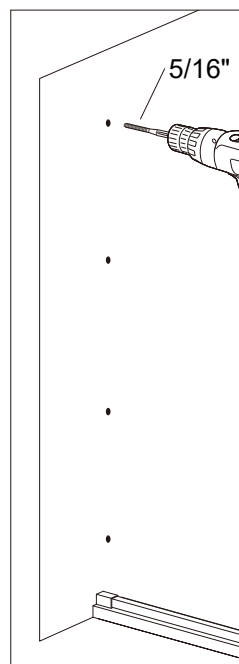

Fig 2.2
3. Remove **Wall Profile [01]** and drill 5/16" screw holes on the wall. (Fig 2.2)